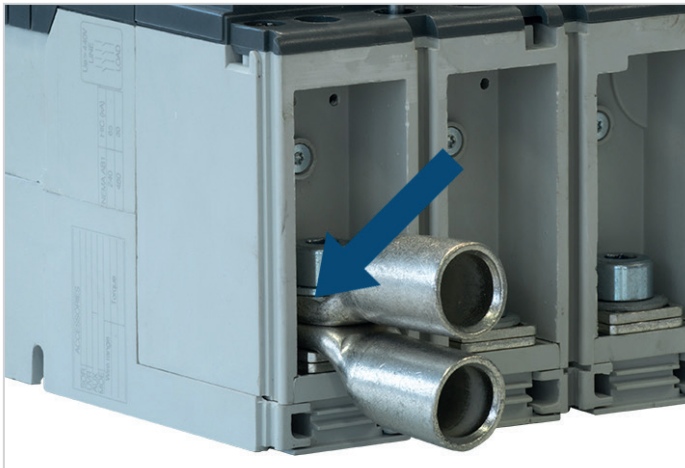

Fig.15: Cable connection for the MCB on the DIN rail; MCCB internal
- This “small” cable lug with a minimum cross section of 4 mm² should be above the other “big” cable lugs with a cross section of 50mm² or 95 mm² as mentioned in Fig.15